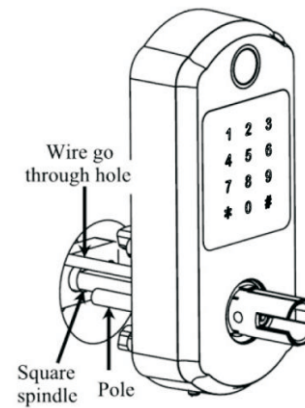

fig. 2
1.2 Install the outside chassis unit (see fig. 2). Slide wire through the hole on the door. Slide square spindle and poles smoothly through the holes in the latch. Make sure to keep the outside chassis vertically aligned during installation. Check latch setting and door dimensions if there are any problems.